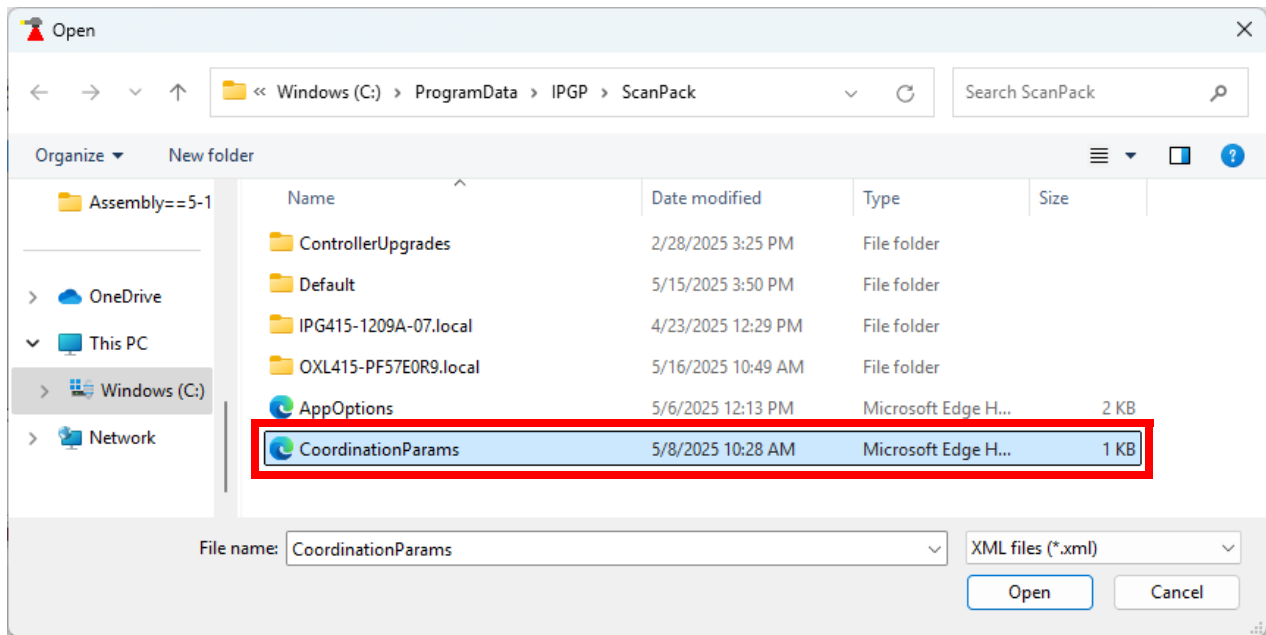

Figure 228: Selecting the CoordinationParams File
6. Select the "CoordinationParams.xml" file. See Figure 228 on page 221.